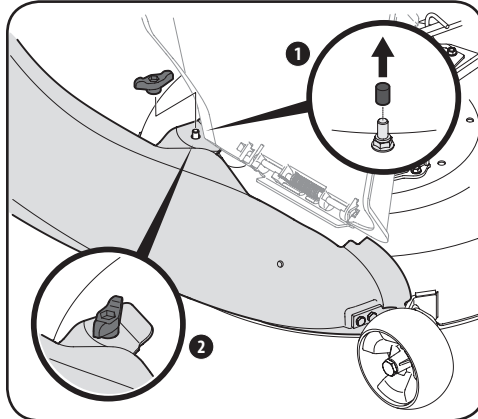

Figure 4-18
3. Secure the chute elbow to the deck using a wing knob (720-04122) from hardware pack 689-00600. See Figure 4-18.
**Note:** If present, remove the protective cap off of the mounting stud on the mowing deck as shown in the upper inset of Figure 4-18.